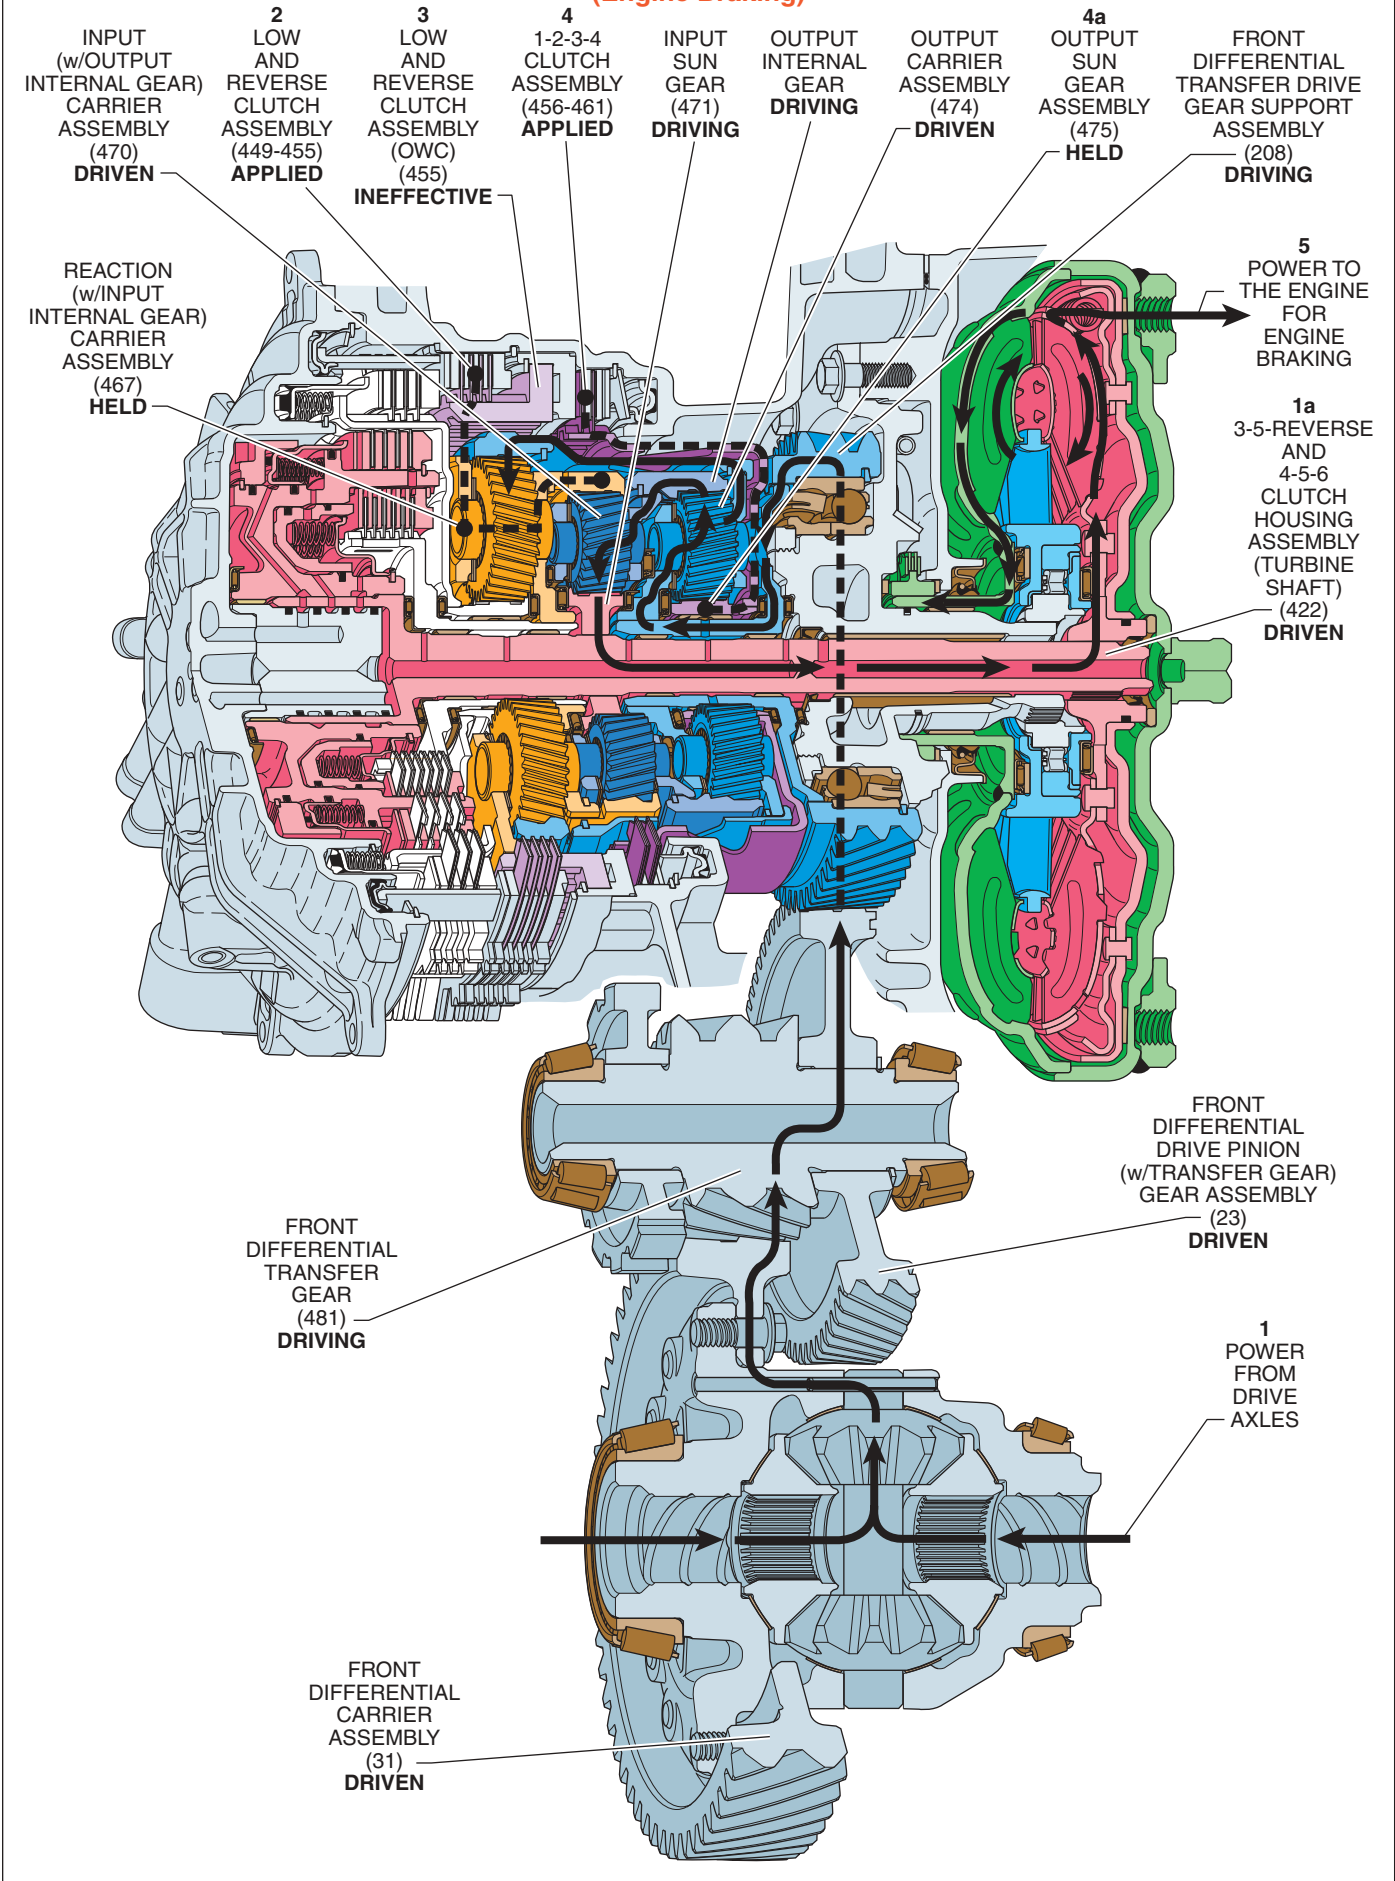

Figure 51
Note: Transfer of engine torque during acceleration is identical to Drive Range – First Gear (refer to page 59), with the exception that the low and reverse clutch is applied, to obtain an approximate gear ratio reduction of 4.484:1 through the transmission gear sets. The power flow illustrated in Figures 51 and 52, and the following text describe the conditions during deceleration (zero or minimum throttle) and how engine compression braking is achieved.
Vehicle speed provides the torque input to the transmission through the drive axles and the front differential carrier assembly (31). This is shown by the direction of the power flow arrows in Figure 51. Notice that this flow is identical to Drive Range – First Gear except that the arrows are in the opposite direction.
Power flow is transferred back through the transmission from the front differential carrier assembly (31) to the 3-5-reverse and 4-5-6 clutch housing assembly (turbine shaft) (422). Each of the component's function and rotation is the same as during acceleration (compare Figures 51 and 53).